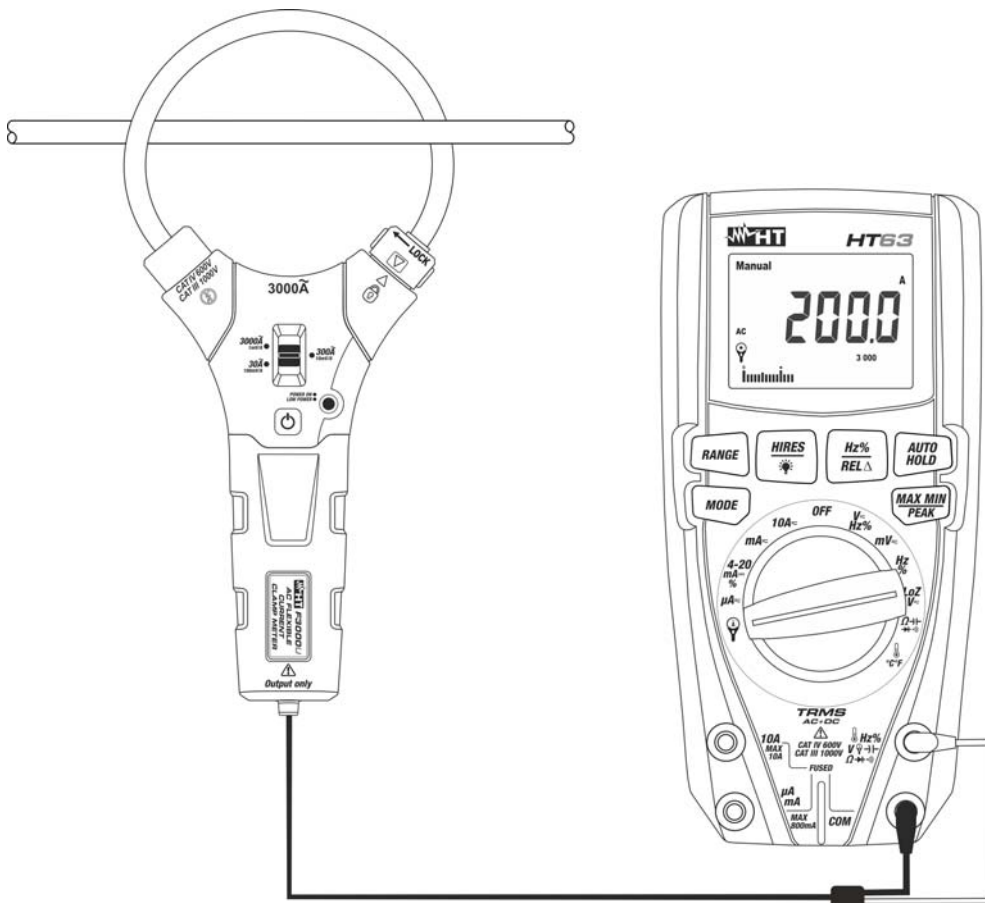

Fig. 3: Use of the instrument for measuring AC current in combination with HT63
7. Open the jaws and insert the phase cable in the middle of it (see Fig. 3). The display of the multimeter shows the value of current **expressed in A**.